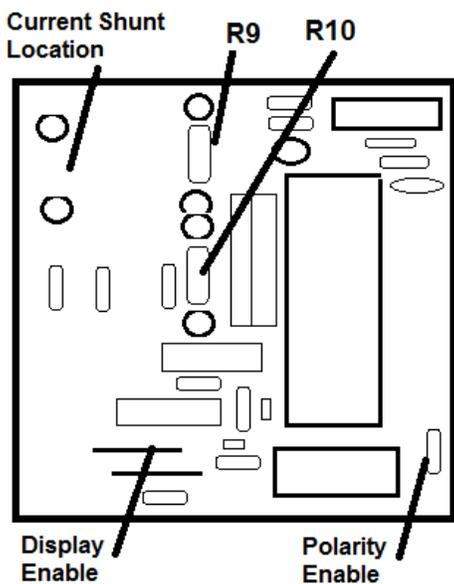

FIGURE 4
Polarity / Display Blanking or dimming. The polarity is energized via a resistor on the lower board assembly. See figure 4.
- Install resistors specified in Table 1 to attain desired range. See figure 4 for component location. Note that these components should be placed in the lower board assembly.